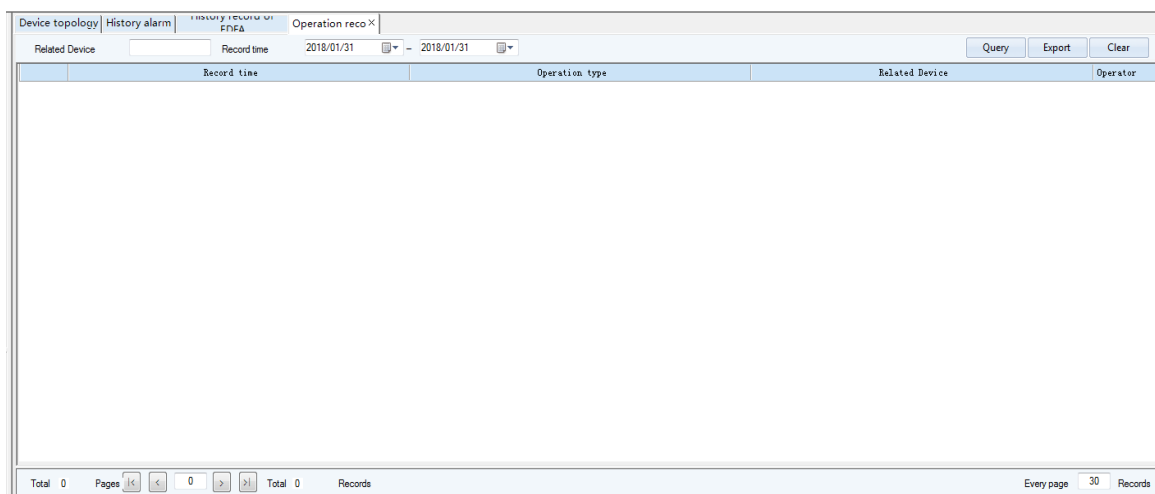

Fig.7.2 Operation record
- (1) Related equipment: Input the related equipment name, then click the “Query” button to check out the history record of the related equipment.
- (2) Record time: Choose the start date and end date of the pre-query and click the “Query” button, then all history record of selected time period will be displayed(see Fig.7.2).